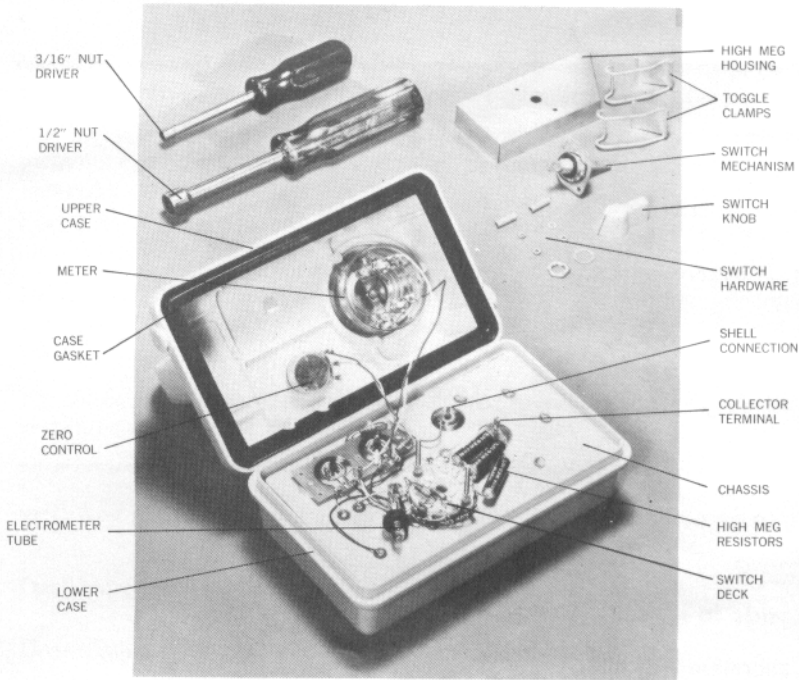

Figure 3—The Jordan 710-4 Disassembled for Servicing
- c. Place the chassis in the lower case to hold the batteries in position and place the upper case next to it as shown in figure 3.